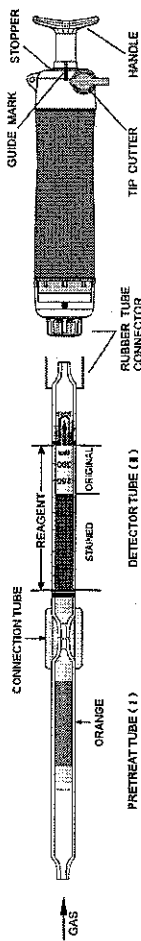

Fig. 1
- ① Break both ends of the pretreat tube (I) and detector tube (II), and connect each end of the pretreat tube and detector tube with connecting tube as shown in Fig. 1.
- ② Insert the detector tube into the aspirating pump securely as shown in Fig. 1. (Arrow mark shall point to the pump.)
- ③ Align the guide marks on the shaft and stopper of the aspirating pump.
- ④ Pull the pump handle at a full stroke until it locks and wait for 3 minutes or until the completion of sampling is confirmed with the flow indicator of the pump. (See descriptions about the flow indicator in the instruction manual of the pump.)
- ⑤ On completion of sampling, read the scale at the maximum point of the stained layer.
- ① Temperature: Correct the tube reading by following temperature correction table.